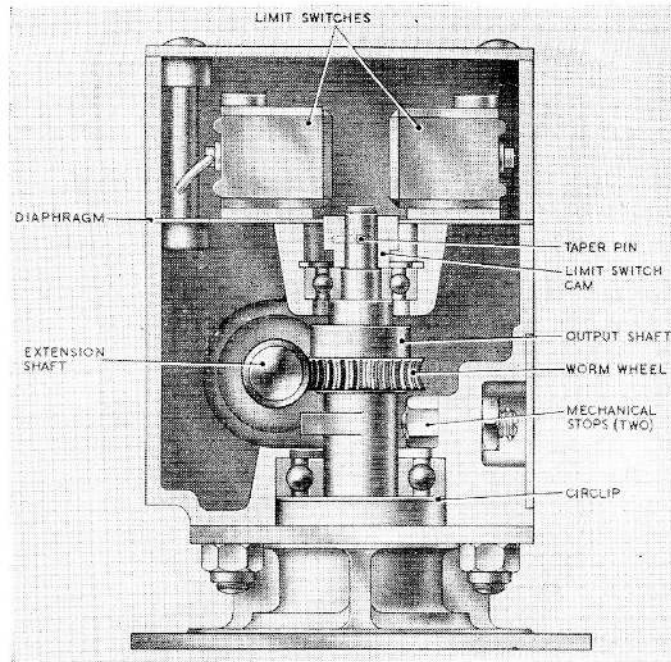

Fig. 3. Part section view on worm drive end
16. The final drive is then taken by a worm, and transmitter at right angles through the worm wheel pinned to the output shaft. A cam (fig. 3) is fitted on the output shaft for limit switch operation.
#### Limit switches (fig. 3)